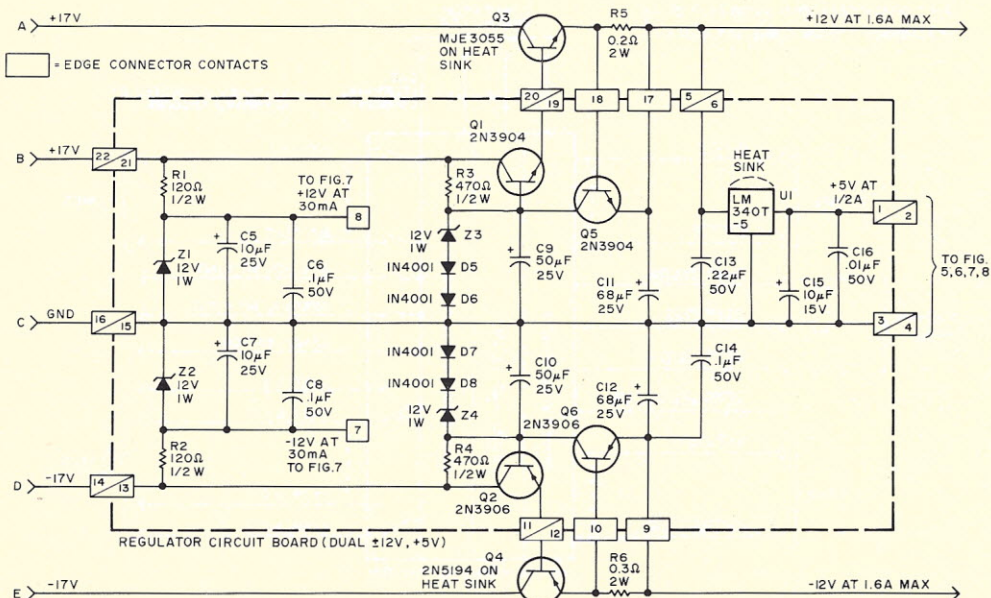

Fig. 4b. Regulator circuit for Friden terminal.
*This is the back of the keyboard-printer after modification. On the left, mounted horizontally, is the edge connector for the control circuit board. The wires on this edge connector formerly went to the main connector block. At the right is a 22-pin edge connector mounted vertically for the regulator circuit board (Fig. 4b). The two power transistors Q3 and Q4 are mounted on the heat sinks. The resistors behind the heat sinks are R5 and R6.*